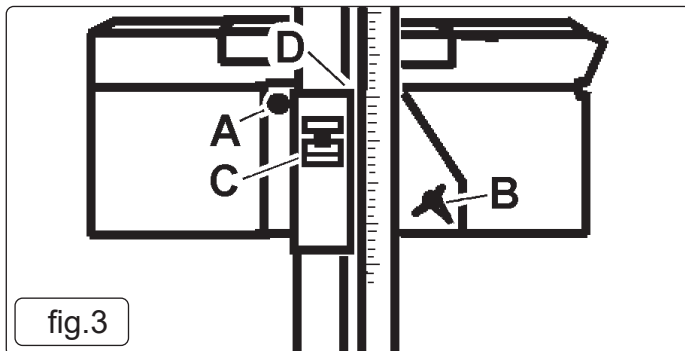

fig.3
- 6.1.4. Squeeze the locking lever (fig. 3. C) on the vertical sliding system and move the system up or down the column until the top edge of the slider (fig. 3.D) aligns with 65cm (650mm) on the column scale. Release locking lever. Centre of lens will now be at the same height (650mm) as the centre of the headlamp.
The Headlamp Beam Setter is equipped with a spirit level located on the base of the optical box, which is visible through the transparent panel. To level the box, loosen screws (fig.3.A & B) located on the side of the box and adjust the box until the spirit level registers horizontal. Re-tighten the screws. The box level must be checked every time it is used on a different working surface.